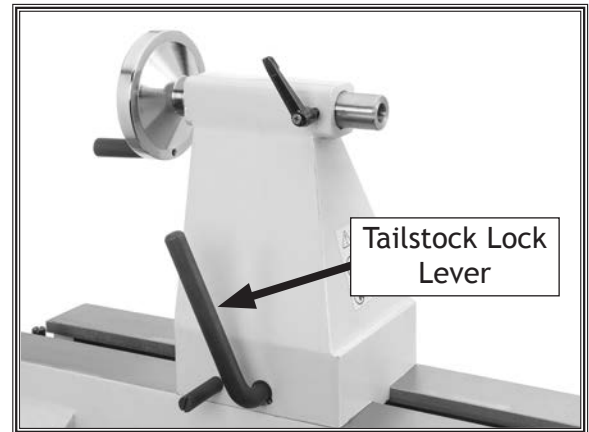

Figure 23. Tailstock lock lever location.
1. Loosen tailstock lock lever and move tailstock to desired position along bed, as shown in Figure 23.